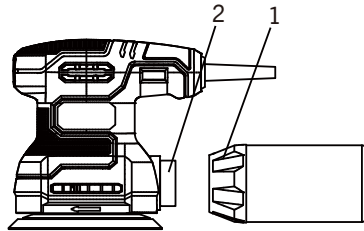
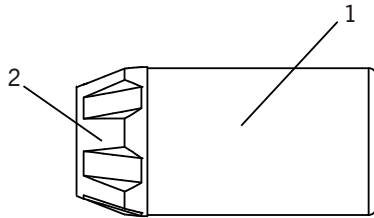

Fig. 4
Fig. 5
1. Slide the dust bag connector (1) into the dust port (2) in the rear of the sander (Fig. 4).
Remove the dust bag assembly (1) from the dust port by carefully pulling it out of the dust port (Fig. 5). Carefully shake the dust bag assembly with the end.
Remove the dust bag assembly (1) from the dust port by carefully pulling it out of the dust port (Fig. 5). Carefully shake the dust bag assembly with the end cap opening (2) pointing downward to remove the sanding dust. Reinstall the dust bag assembly as noted in Fig 4.